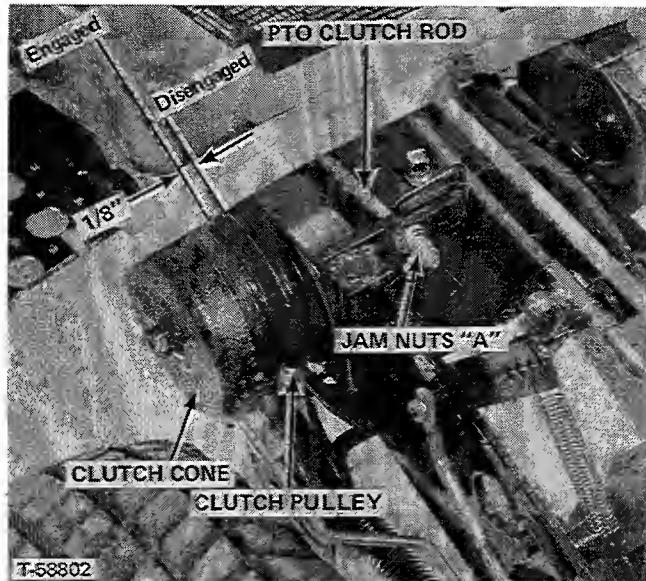

FIGURE 26 - (Seat and Seat Deck Removed)
P.T.O. CLUTCH ADJUSTMENT (Figure 26) ALL MODELS
The P.T.O. clutch is properly adjusted when the clutch pulley moves outward toward the clutch cone exactly $1/8''$ when the P.T.O. lever is moved from the fully disengaged to the fully engaged position. See Figure 26. Adjust jam nuts "A" on end of P.T.O. clutch rod to give $1/8''$ pulley motion when P.T.O. lever is moved through its full range of motion.